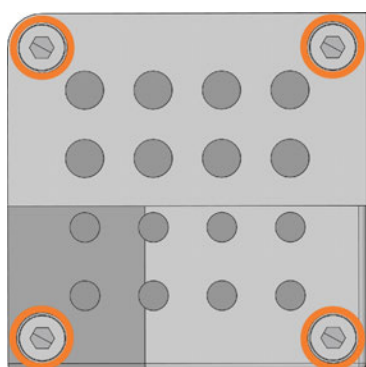
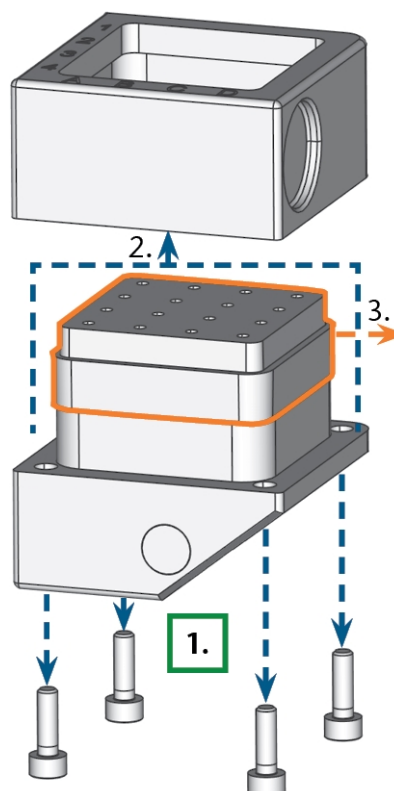

FIG. 90 – THE 4 SCREWS ON THE BOTTOM SIDE OF THE TOOL MAGAZINE (MARKED ORANGE)
FIG. 91 – DISASSEMBLING THE TOOL MAGAZINE AND REMOVING THE INSERT
5. Unscrew the 4 screws on the bottom side of the tool magazine (↗ Fig. 90 – see below, ↗ Fig. 91 – see below, step 1).
6. Lift the cover off the magazine (↗ Fig. 91 – see below, step 2).
7. Remove the existing tool magazine insert (↗ Fig. 91 – see below, step 3) and replace it with a new one.